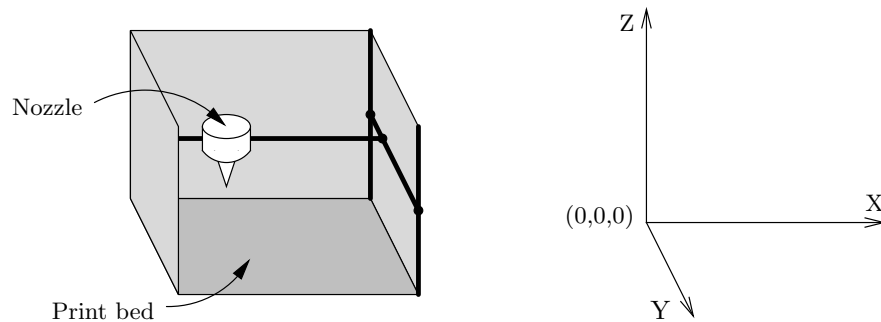

Figure 1: Structure and axes of the TipTap
In this assignment you will write a device driver for a fictitious 3D printer known as a “TipTap.” The TipTap has a printing nozzle that can be moved along the X, Y, and Z axes above a print bed, shown in Figure 1. While moving, it can extrude one of a number of different colored materials to print a three-dimensional object. The nozzle is also equipped with a small laser probe which can determine the amount of empty space directly underneath it. This probe allows the TipTap hardware to support a variety of different print sizes, as well as to function as a 3D scanner.
- **TT_MOVEX**, **TT_MOVEY**, or **TT_MOVEZ**: Moves the print nozzle along the X, Y, or Z axis, respectively. The distance field in the instruction dictates how many units the nozzle is to move, and the sign conventions are illustrated in Figure 1: negative means left, up, or toward the print bed, and positive means right, down, or away from the print bed. You will need to keep track of the nozzle's location to avoid hitting the edges of the print space.